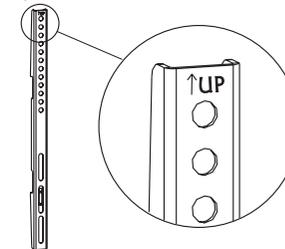

Fig. 1
For correct installing, make sure that hook of every bracket must facing down. Use selected bolts, spacers and washers for installing bracket at the back of display. Adjust two brackets to equal heights and level. Once aligned, tightly secure the bolts. **Note:** the "UP" side on the top. As shown in Fig. 1.
1. Some displays have vertical backs. No spacer is required. Install the bracket directly to the back of display by using bolts and square washers provided. As shown in Fig. 1 a.
2. Some displays have curved backs with recessed mounting lands (Fig.a). It will require the use of spacer. For this display, install a spacer (M) between display and the bracket. As shown in Fig 1 b.